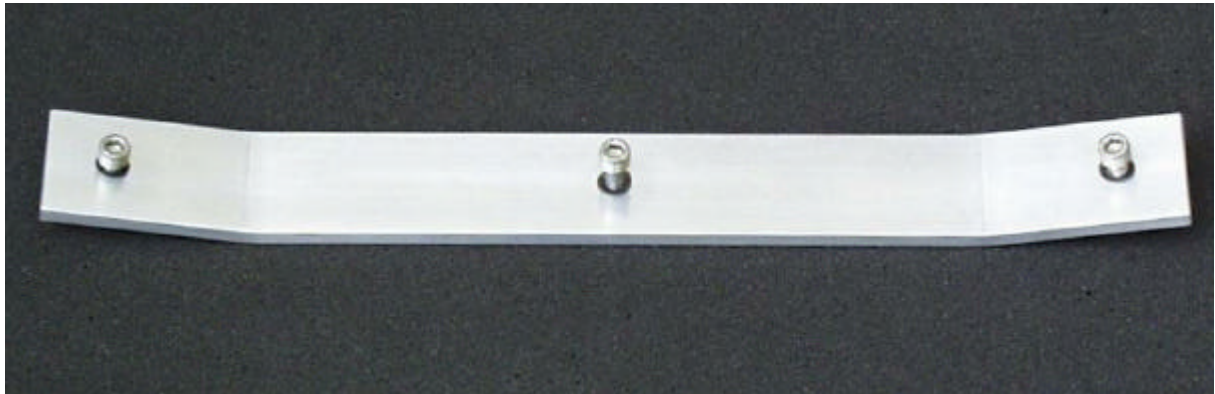

Figure 4: Front bar (part 6) to connect inner conductor with LP-structure.
Step 2: The front section is assembled according to fig. 2, fig. 3 and fig. 4 using the square shaped aluminium block and two INBUS-screws. The flat aluminium bar is connected to the inner conductor and the two LP-wings using 3 INBUS screws.